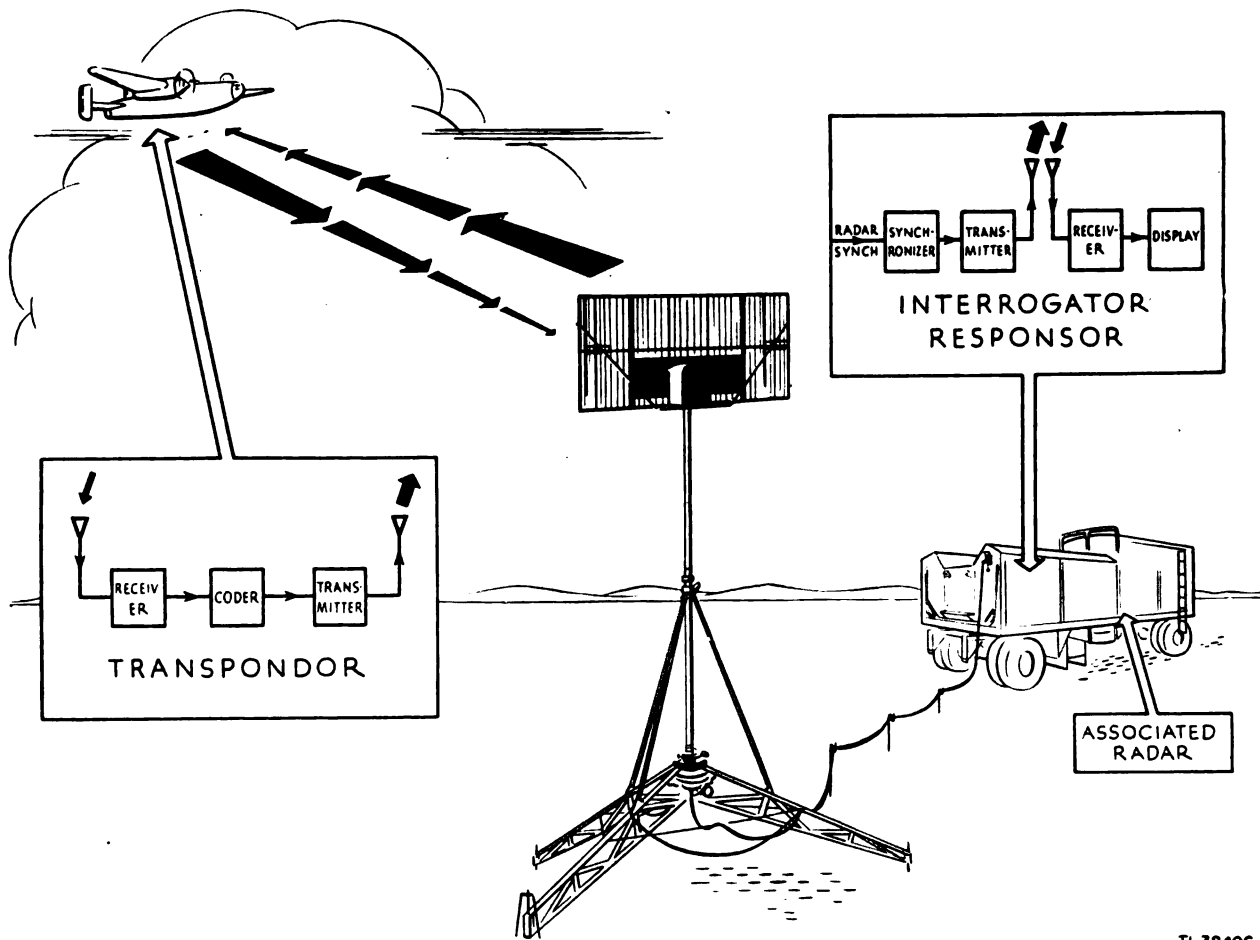

Figure 2. Basic IFF system.
a. DESCRIPTION. The complete IFF system consists of two separate units; the ground unit, located near the radar set, called the *interrogator-responder*, and the airborne equipment, called the *transponder*, which is located in the friendly plane. The radar operator challenges an unidentified plane by putting the interrogator-responder into operation. As shown in figure 2, pulses of radio-frequency (r-f) energy are radiated toward the plane. These pulses are weak compared with the power in the radar pulses, and
synchronizer to control the transmitter. The r-f pulses from the transmitter are fed to a highly directional antenna. The transmitting and receiving antennas are usually one antenna used for both purposes (fig. 2). The returned coded pulses are detected and amplified by the receiver circuits and then sent to the